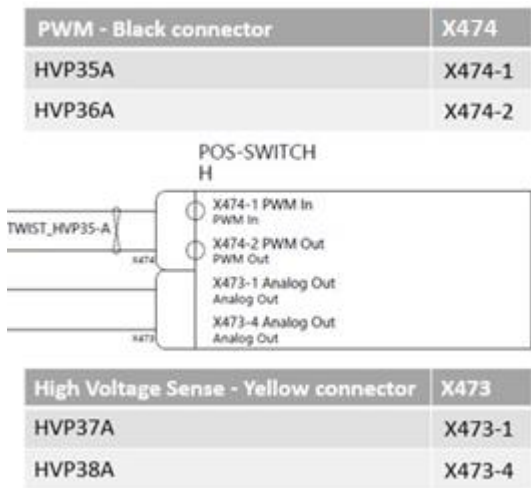

Figure 16
**NOTE:** Use the markings from step 11 for positioning. If necessary, use the wiring diagram (Figure 16).
NOTE: Use the markings from step 13 for positioning. If necessary, use the wiring diagram (Figure 16).